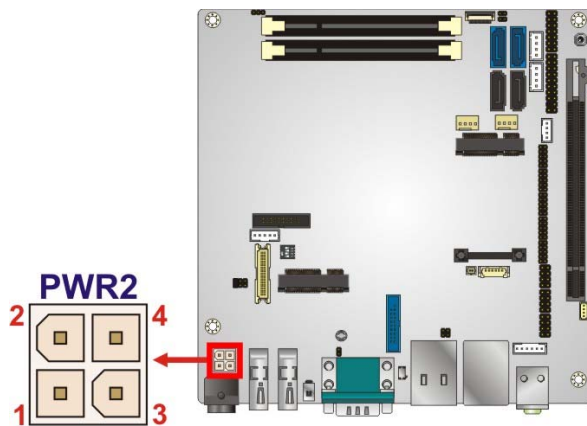

Figure 3-20: Power Connector Location
- CN Location:** See **Figure 3-20**